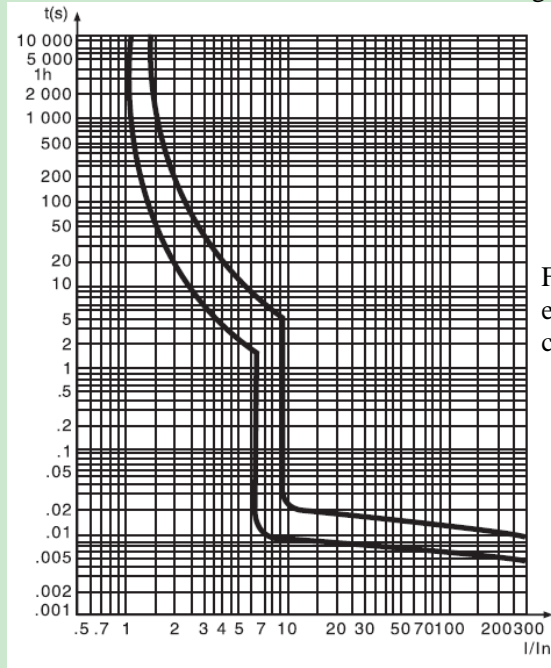
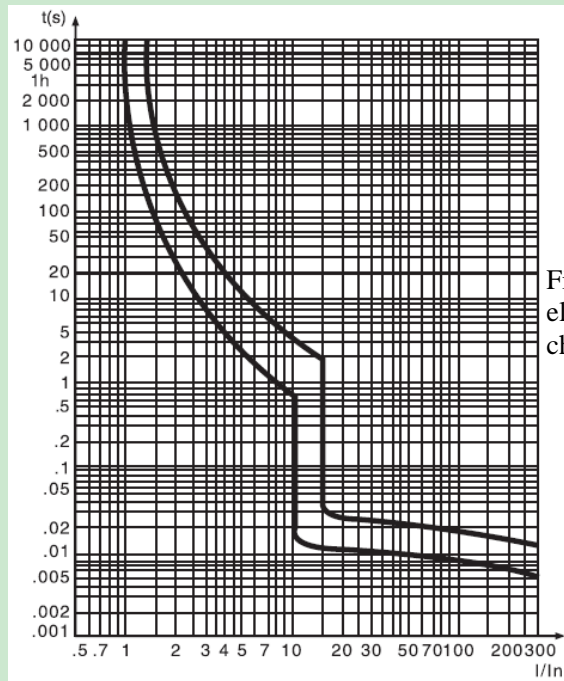

Fig. 1 C type thermal / electromagnetic trip characteristics curve
Fig. 2 D type thermal / electromagnetic trip characteristics curve
- The protection characteristics curves of circuit breaker are illustrated in Fig. 1 and Fig. 2